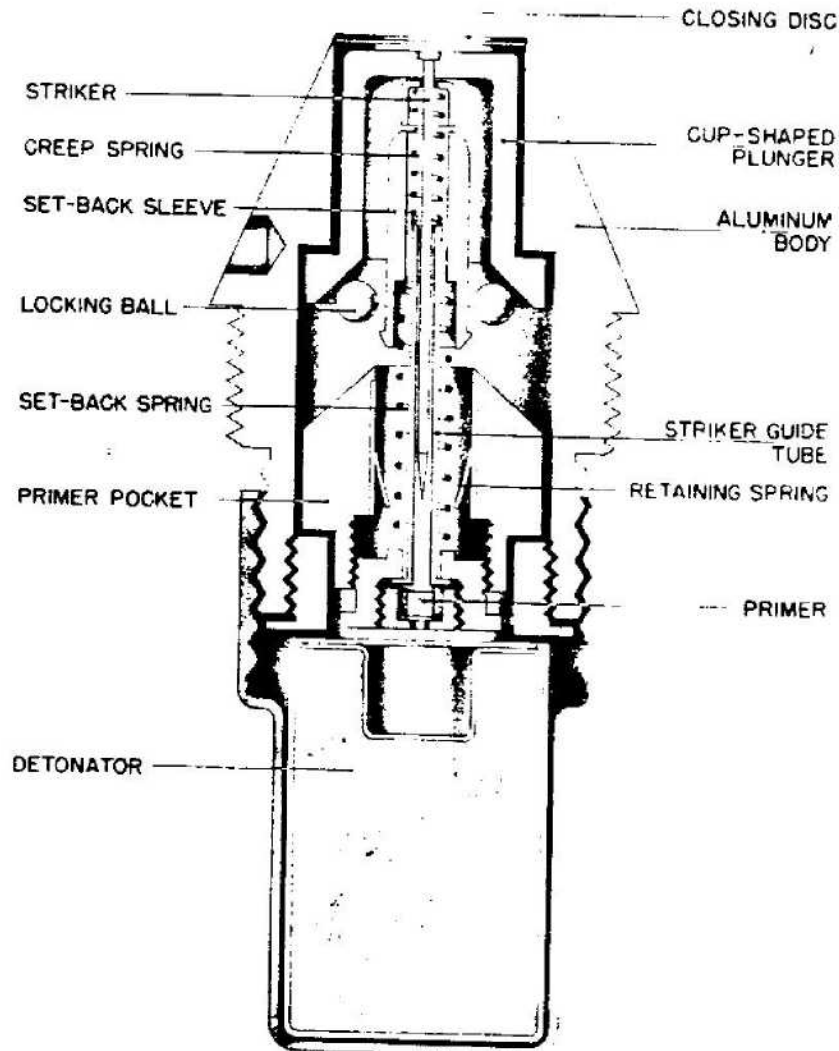

Figure 591—Wgr. Z. 38
**EMPLOYMENT:** Mechanical Impact Nose Fuze for German H. E. 5-cm Mortar Bomb. (See fig. 591.)